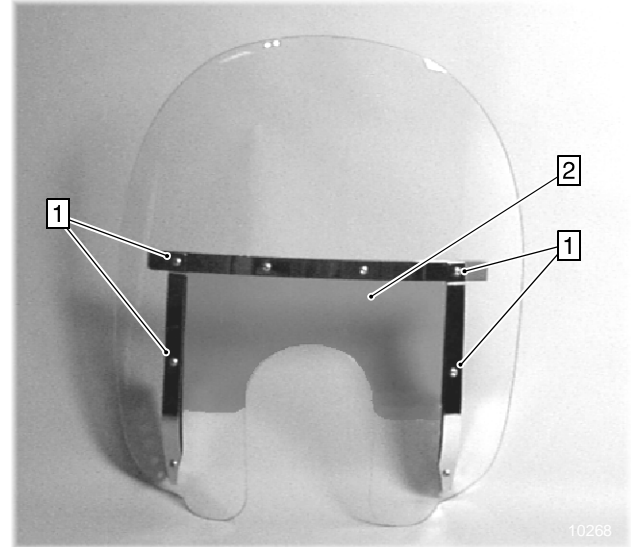

Figure 4
6. Adjust the amount of air gap between the top of the headlamp body and the windshield to approximately 1/4" by loosening the windshield pinch screws and moving the windshield insert. Tighten the pinch screws when finished (see Figure 4).